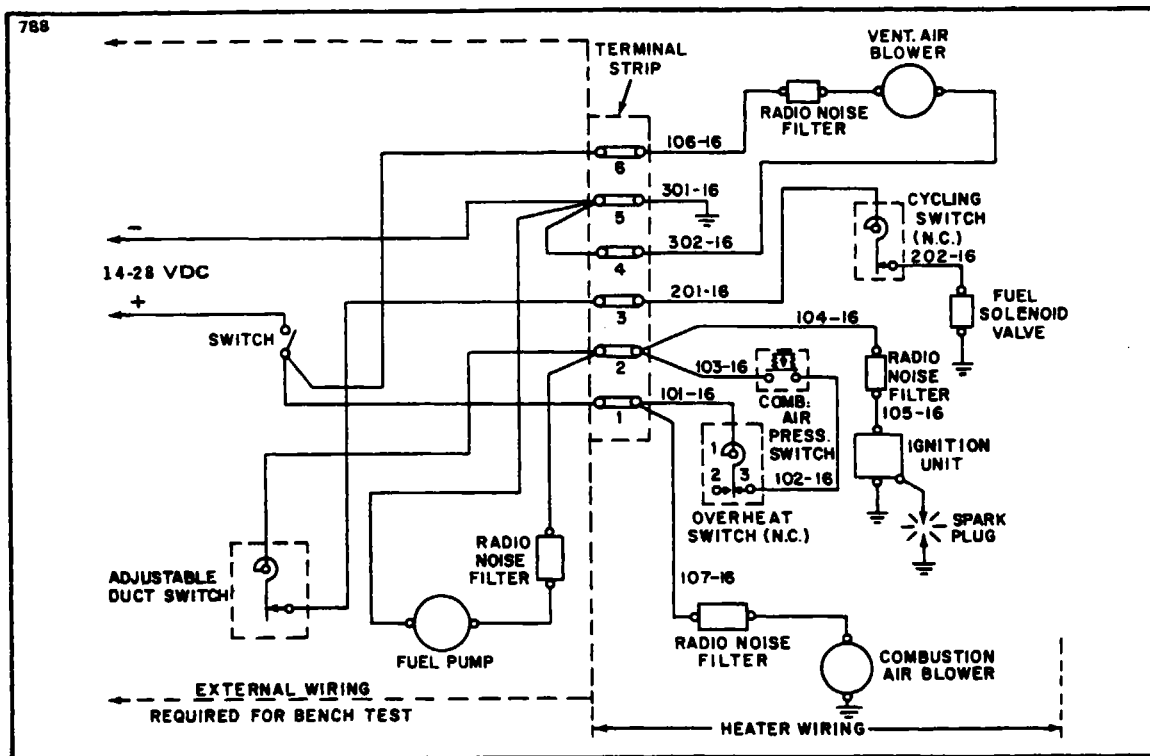

Figure 13-34. Wiring Connections for Heater Operation Test
- c. Connect components and heater as outlined in the wiring connection diagram, Figure 13-34. The power supply switch should be open.